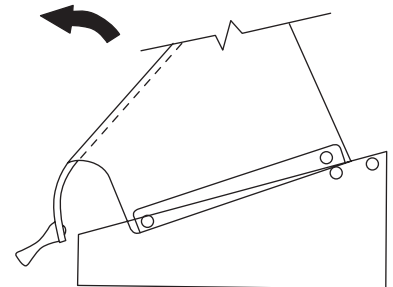

Figure 2. Optional Food Shield Components
**NOTE: Early style corrals do not have weldnuts on inside of side covers. When installing the food shield, jamnuts (5, figure 2) must be used.**
2. Assemble the hardware to the left and right cover panels as shown in Figure 2.